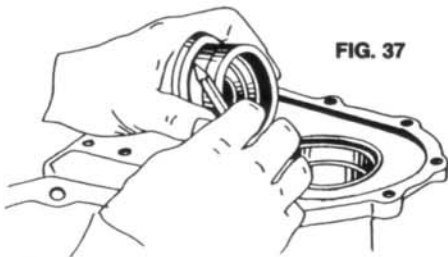

FIG. 37
- D. Place cup onto proper step of **CUP DRIVER PLUG**. (Fig. 37)